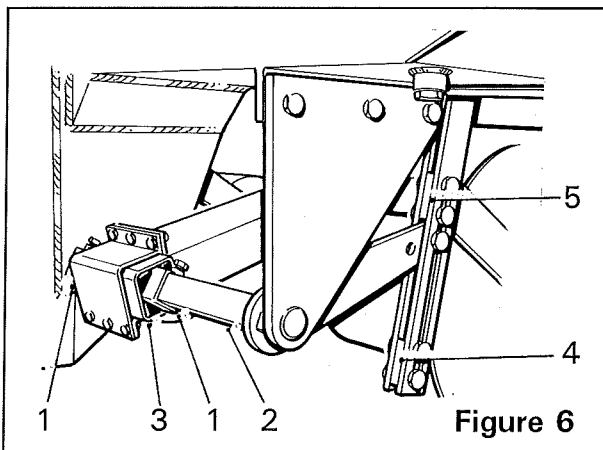
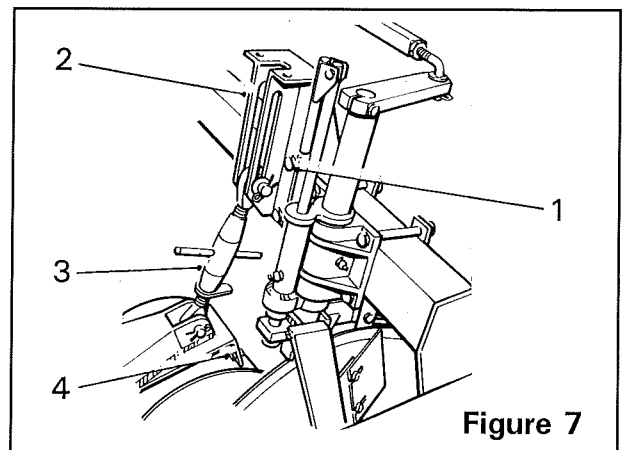

Figure 6
Figure 7
1. Release the clamp collars (*item 1, figure 6*) on the pivot shaft (*item 2, figure 6*).
2. Release the clamp bolts (*item 1, figure 7*) on the reaction bracket (*item 2, figure 7*).
4. Retighten the collars (*item 1, figure 6*) and reaction bracket bolts (*item 1, figure 7*).
The turnbuckle (*item 3, figure 7*) sets the working depth of the diablo rollers. Lengthening the turnbuckle will cause the shares to run shallower beneath the top of the ridge and shortening will allow the share to run deeper.
The diablo rollers are mounted on rubber torsion springs (*item 3, figure 6*) which allow the weight to be carried off the rollers to reduce compaction of the ridge, or for additional pressure to be put on the ridge to consolidate it in light conditions when the flow over the shares is poor.
By raising the bottom stop (*item 4, figure 6*) on the pressure setting link, weight is removed from the diablo roller. Lowering the top stop (if fitted) (*item 5, figure 6*) puts extra pressure on the roller.
The diablo rollers are each fitted with a scraper (*item 4, figure 7*). The scrapers should be set as close to the rollers as possible without fouling them.